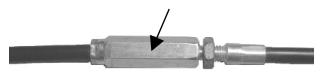

Figure 18
- 3) Turn the adjusting nut in figure 18 in a clockwise direction to tighten the wheel clutch; or in a anticlockwise direction to loosen it.